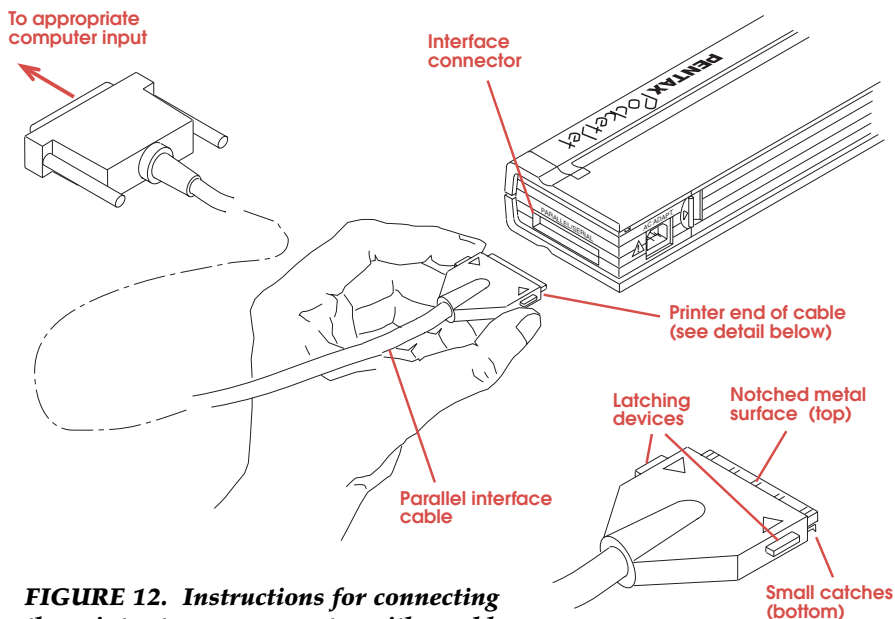

FIGURE 12. Instructions for connecting the printer to your computer with a cable.
- 3** Insert the printer end of the cable into the interface connector on the side of the printer. *See Figure 12 on page 20.*